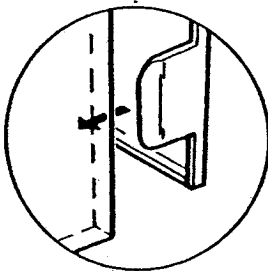

Fig. 86
5. Ensure that the outer case is located over the lower tabs on the back plate on both sides (Fig. 86).